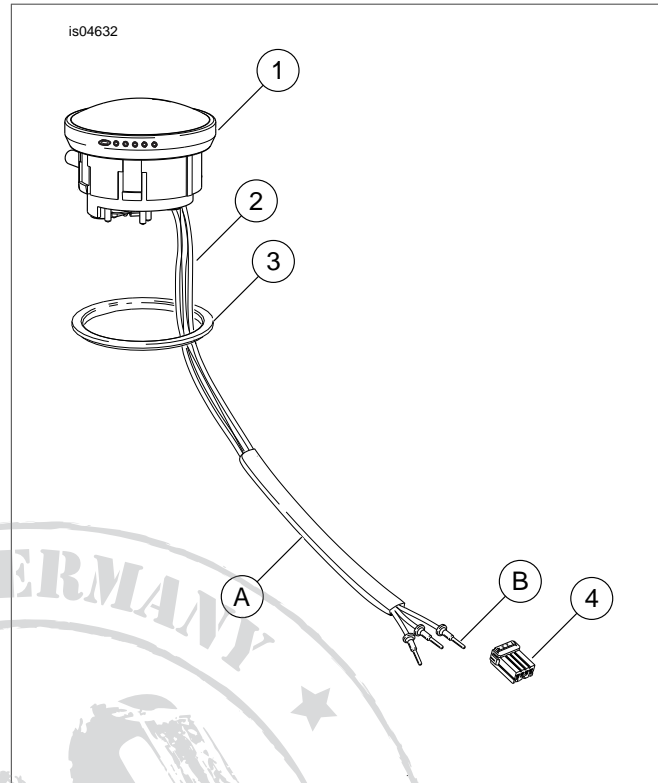

Figure 2. Service Parts: LED Fuel Gauge Kit
See Figure 2 and Table 1.
2. See Figure 2. Depress the pin on the socket terminal side of the connector, and pull apart the pin and socket halves.
1. See Figure 2. Assemble the new gasket (3) to the LED fuel gauge (1) from the kit. Install the gasket so the flat side contacts the edge of the gauge.